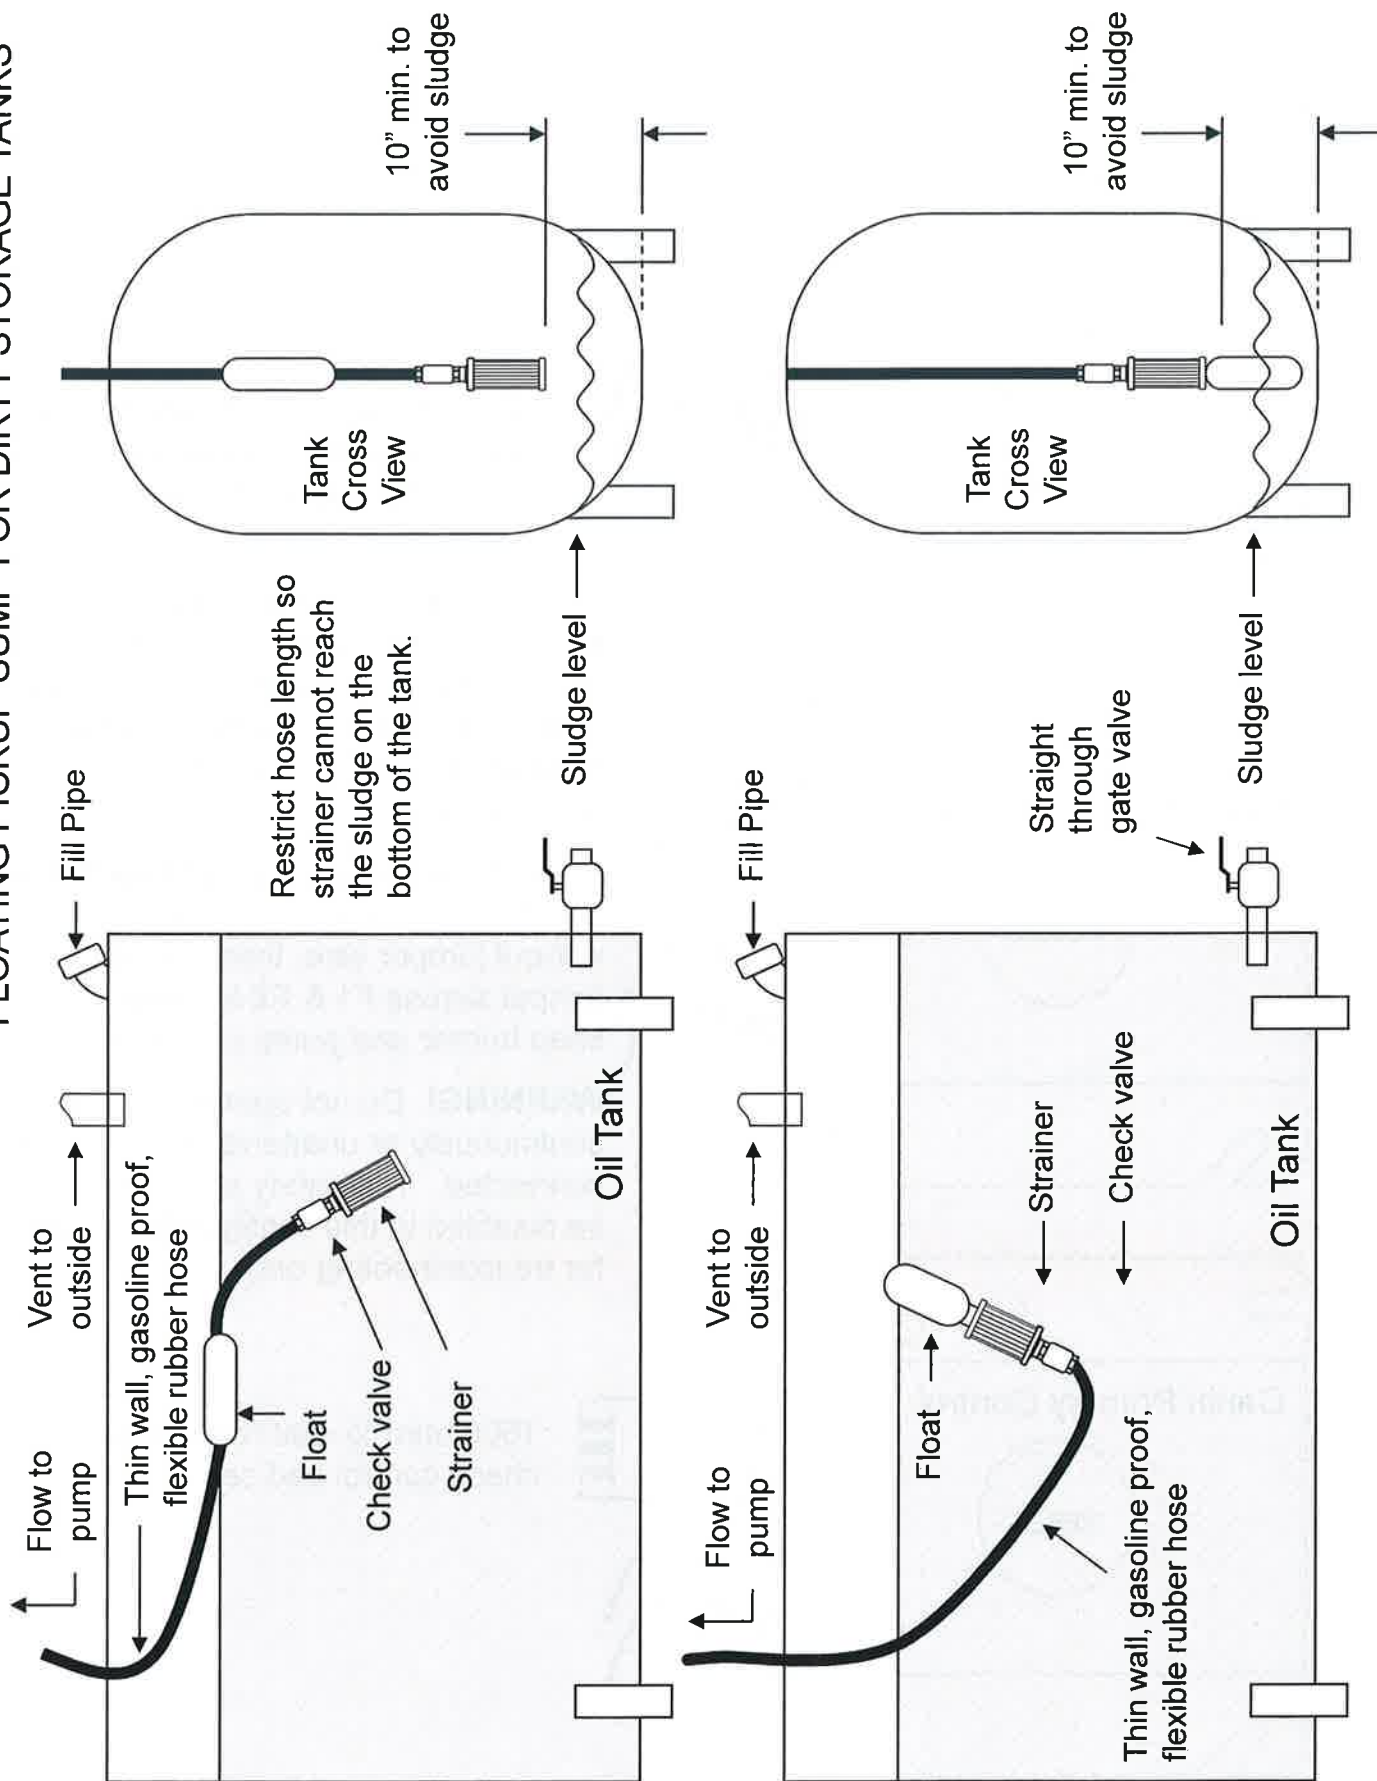

Figure 9
- Floating Oil Pick-up (dirty tanks)	Figure 9